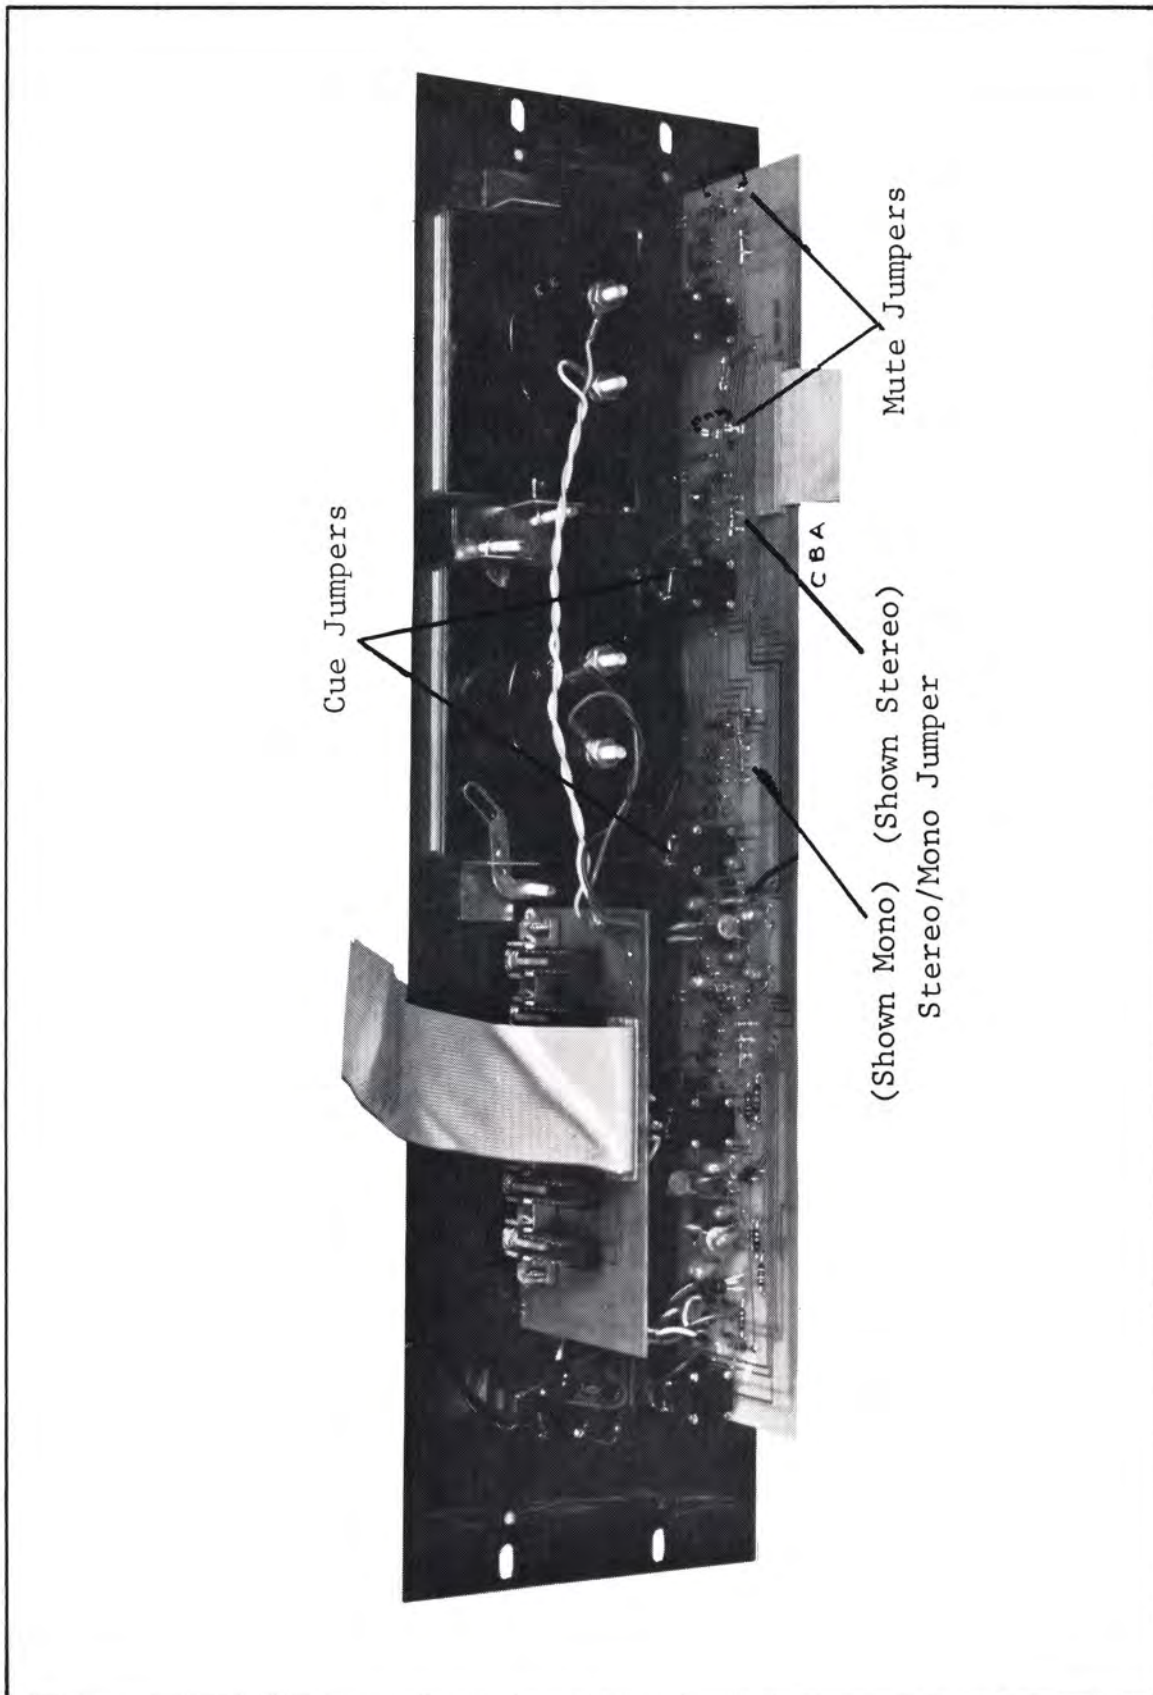

Figure 3-3 Cue, Mute & Stereo/Mono Jumper Locations
- 3-6. Cue (Fig. 3-3). Located on top of each pot, connecting two terminals together. Remove the jumper to defeat the cue. To restore cue, solder a jumper between the terminals.
- 3-7. Mute (Fig. 3-3). Located on the mixer PC board to the left of their respective mixing pots. (Viewed from front). Remove the jumper to defeat the mute. To restore mute, solder a jumper between the terminal posts.